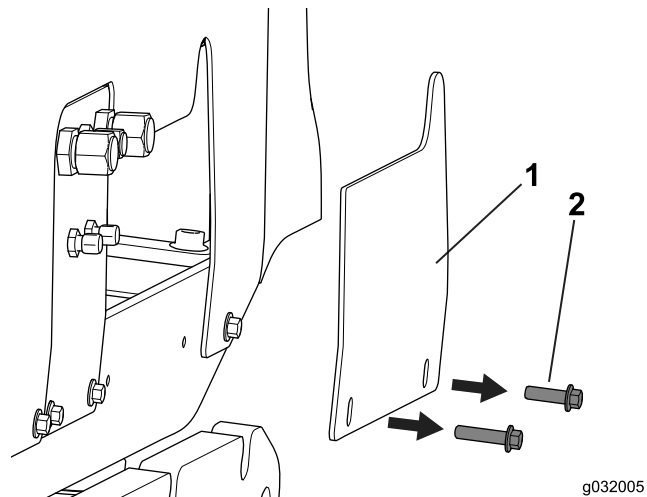

Figure 3
6. Remove the existing cover plate from the rear of the machine as shown in Figure 3.